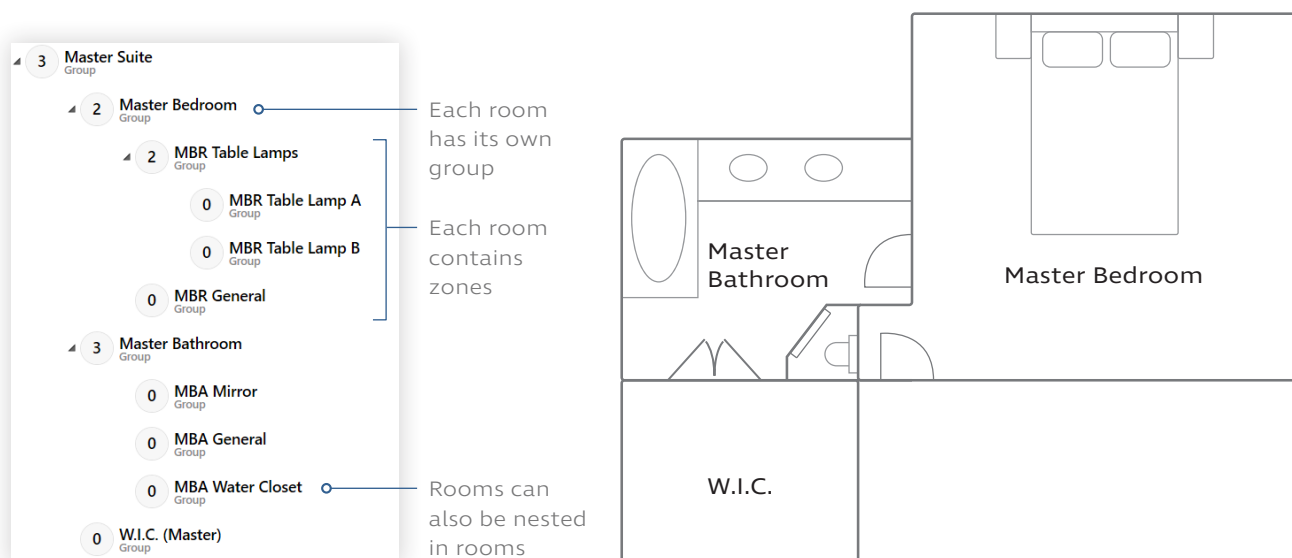

fig. 26
- A Master Suite group might contain subgroups "Master BR", "Master Bath", and "WIC". In turn, "Master BR" might contain several groups for zones, as in the previous example. Since these are all nested within "Master Suite", a "Master Suite" keypad could turn the entire suite off as needed. See fig. 26, next page.